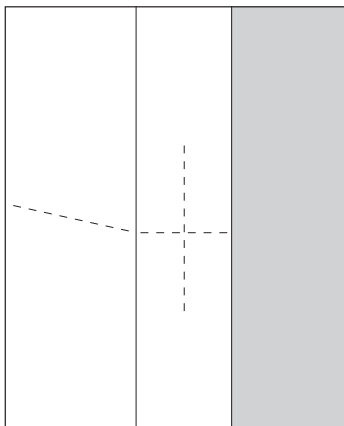

Figure 1.
2. Mark the centre of the door edge. Figure 1.